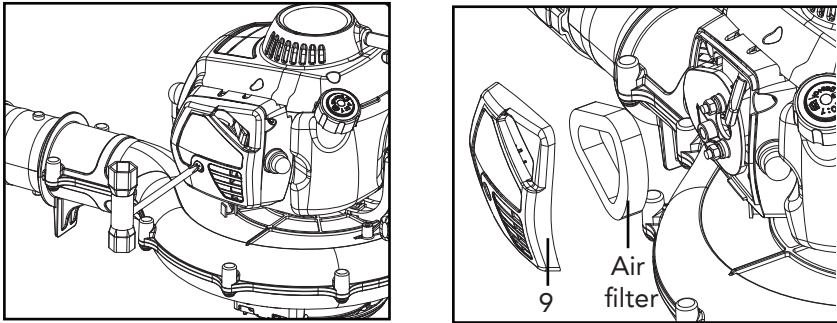

Fig . 14
- Remove the screw, remove cover (9) and the air filter (Fig. 14).
- Reassemble the air filter and the cover (9) (Fig.14).